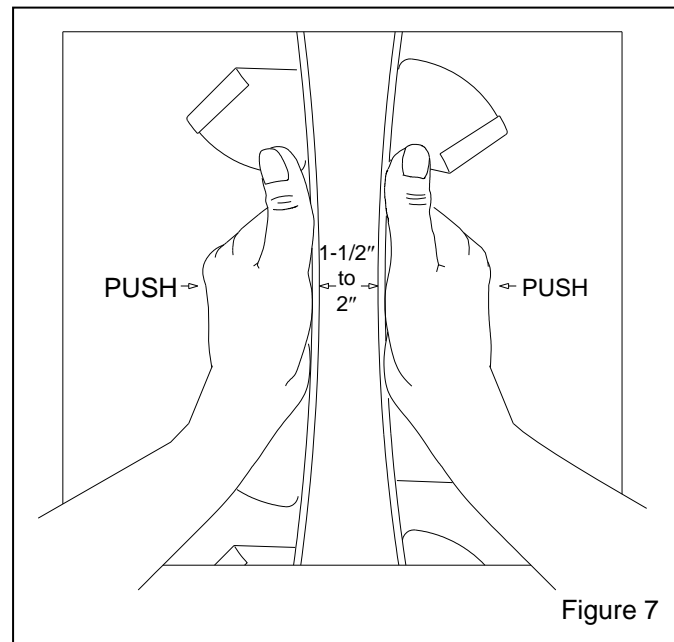

Figure 7
**4.1.4** Working through the access opening, use both hands to draw the two sides of the elevator belt together. If the belt is tightened correctly, it cannot be drawn any closer together than between 1-1/2" to 2". See Figure 7.